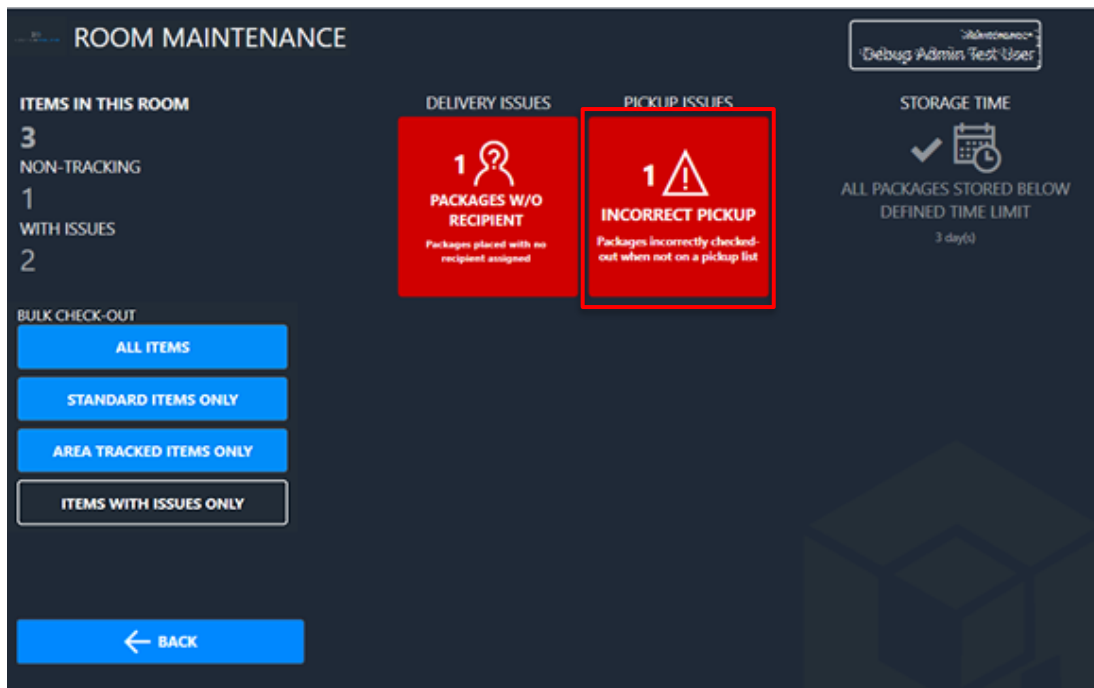

Figure 56: Room Maintenance screen – Incorrect Pickup
- i. If Incorrect Pickup still displays issues, tap **Incorrect Pickup**, see Figure 56.
The Room Maintenance screen opens showing any Incorrect Pickup Issues. Refer to Figure 56.
3. Tap **Incorrect Pickup**, see Figure 56.